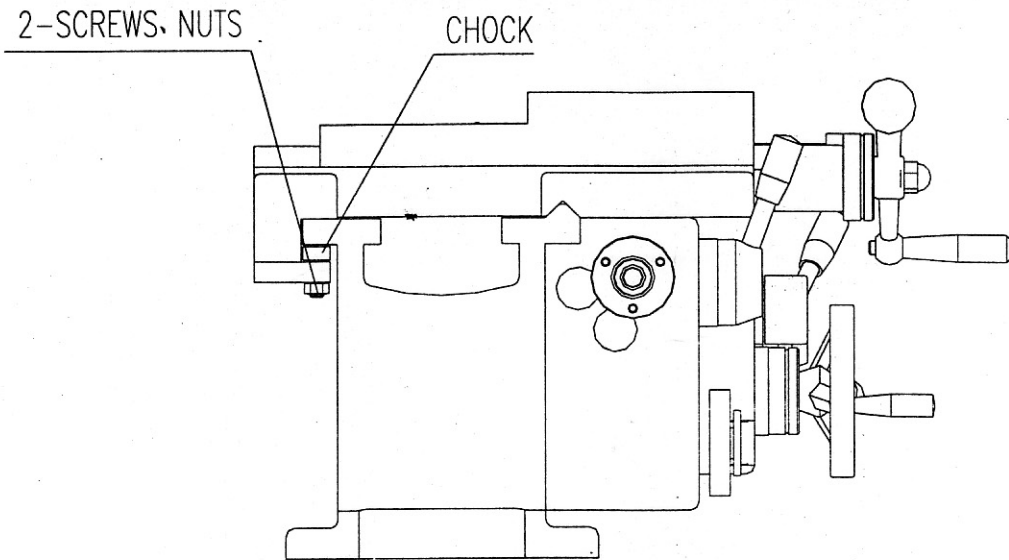

Fig9. RESETING CHOCK II
- In the carriage ,small slide and the dovetail guide way, There are iron piece to eliminate friction. They are properly set. After using a period of time, the gap will be bigger or smaller. According to the actual fact,reset them.Refer to fig 9 or fig 10.